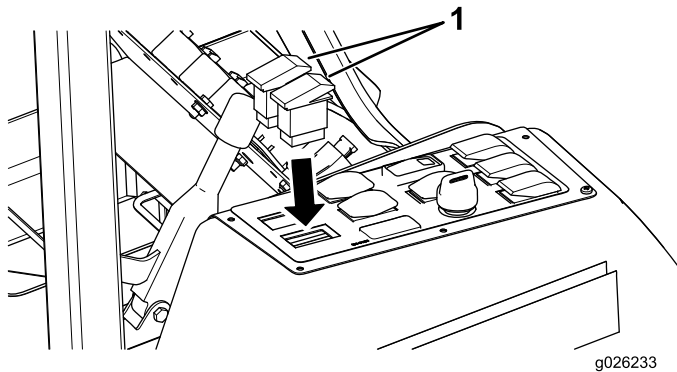

Figure 6
2. Connect the switches to the electrical connectors in the control panel and then insert the switches into the panel (Figure 6).